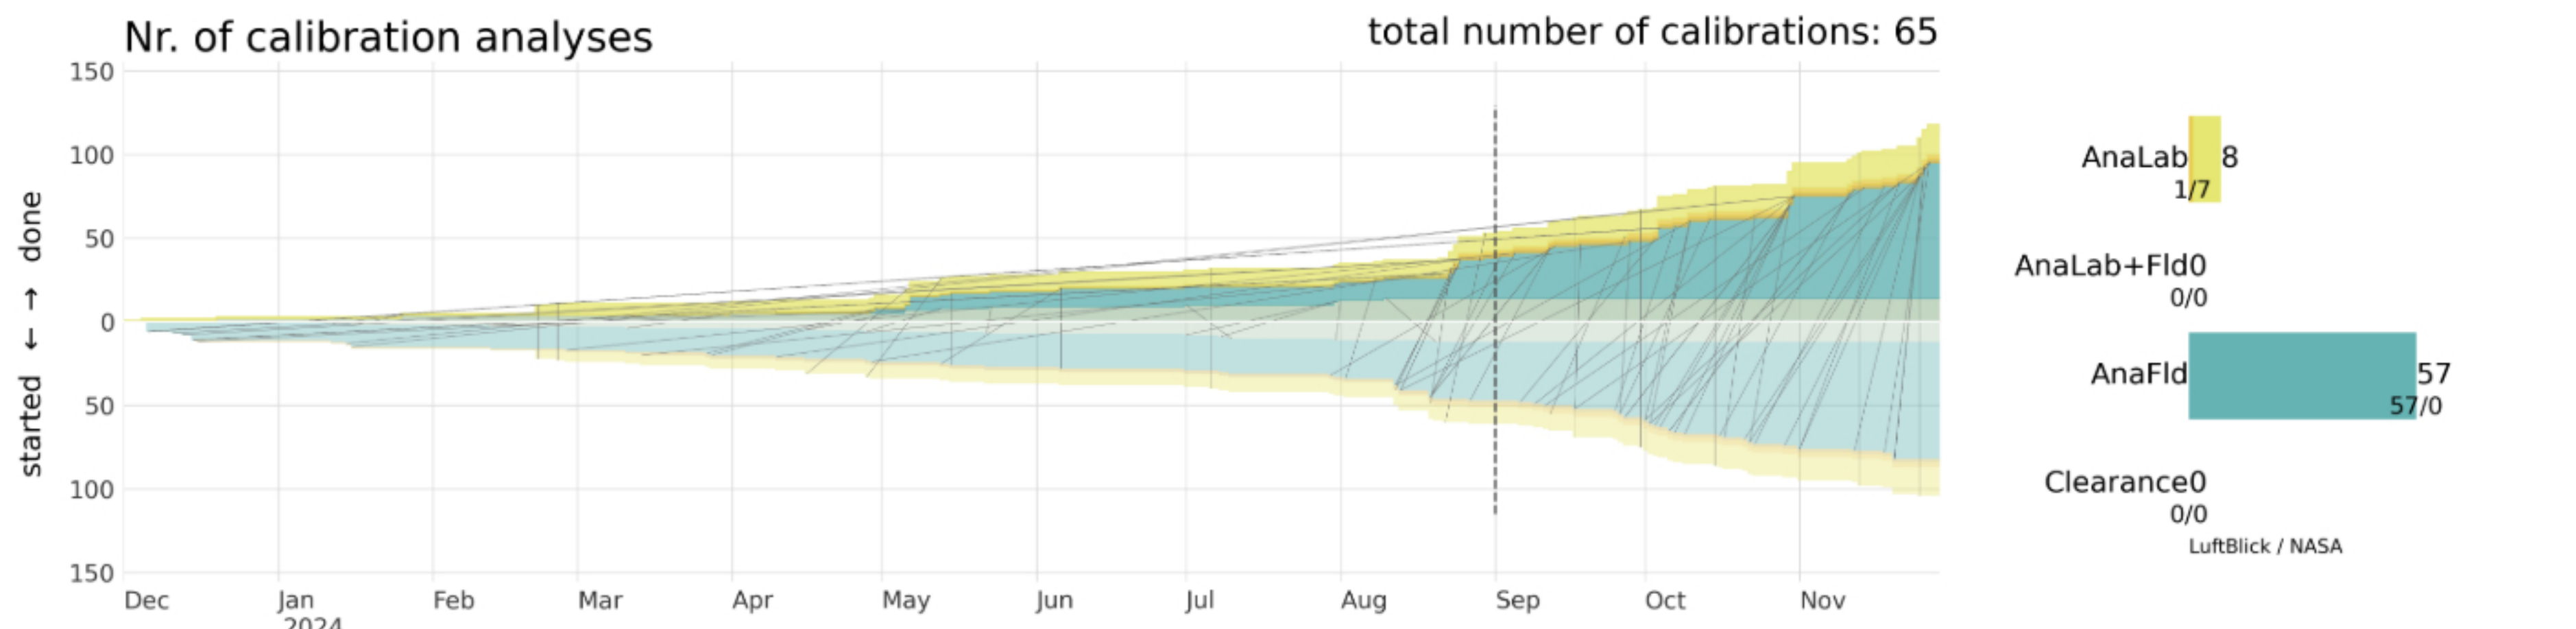

Figure 2
- **AnaLab** is the analysis of the measurements taken in the laboratory (details are provided in section B of Figure 2) solely. This category allows to process Out of the Box (OoB) dataproducts, which cover sky data products, or direct sun products which use the literature reference spectra.